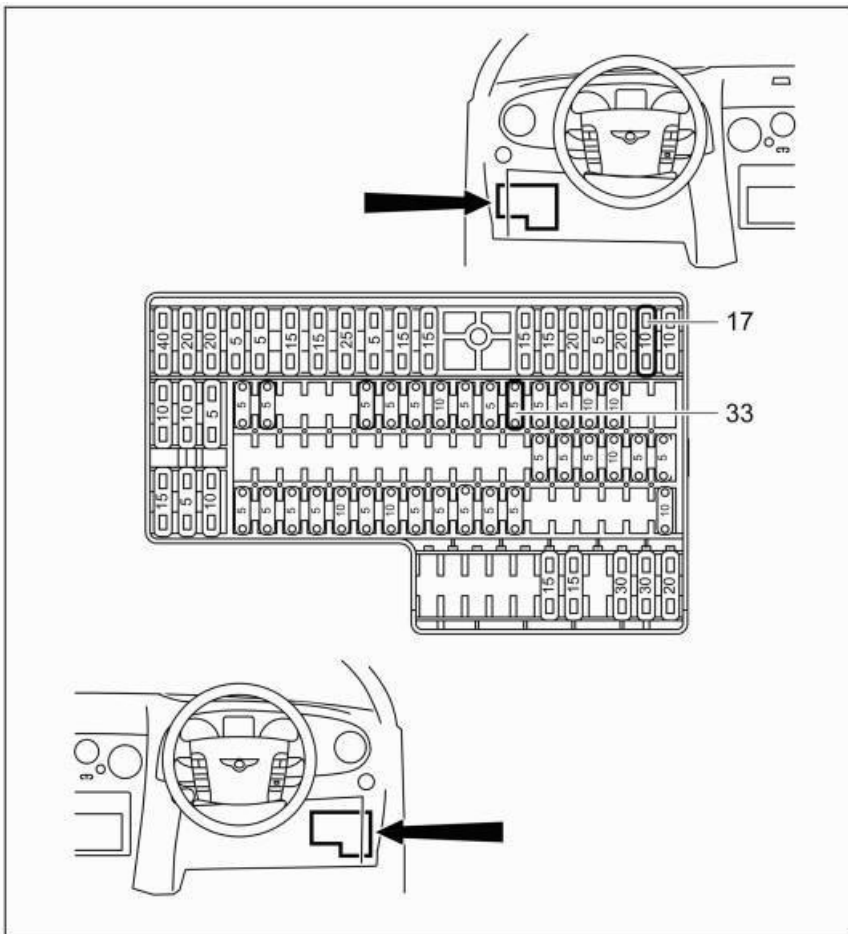

Figure 2
- c. Remove fuse 17 (10A) and fuse 33 (5A) from the driver's fascia fusebox. (see Figure 2) Once the fuses are removed they can then be replaced